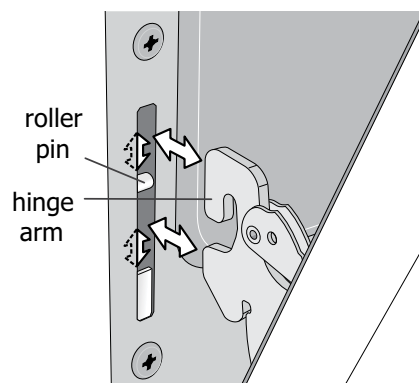

Fig. 4
5. With the oven door in the broil stop position lift the oven door hinge arms over the roller pins located on each side of the oven frame (See Fig. 4).
2. Holding the oven door at the same angle as the removal position, seat the hook of the hinge arm over the roller pins located on each side of the oven door frame (See Fig. 4). The hook of the hinge arms must be fully seated onto the roller pins.